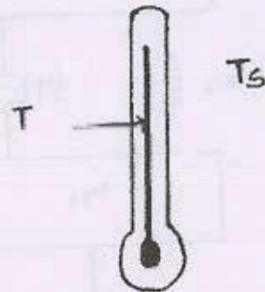

fig 1c
- c) For the thermometer shown in fig. 1c, the ambient temperature is  $T_s$  and temperature of fluid is  $T$ . The rate of heat flow from surrounding medium to the fluid is  $Q = C_1(T_s - T)$ . The rate of change of temperature of fluid is  $D.T. = C_2.Q$ . Construct the block diagram representation for the system in which  $T_s$  is input and  $T$  is output. Determine time constant. [6]